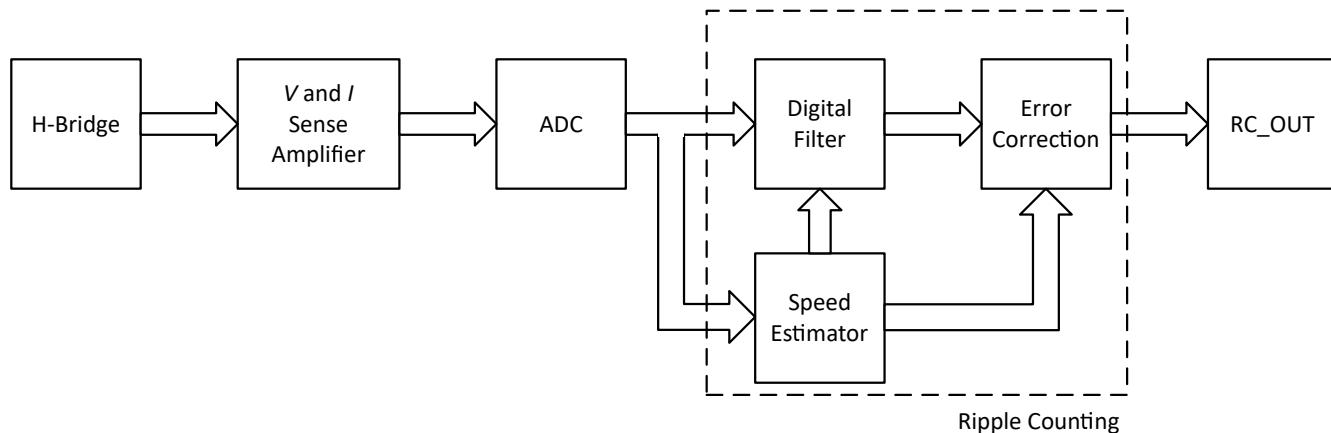

図 7-12. Ripple counting block diagram
**DIS\_EC** is used to enable/disable the error correction block shown in **图 7-12**. **表 7-16** shows the settings for **DIS\_EC**.